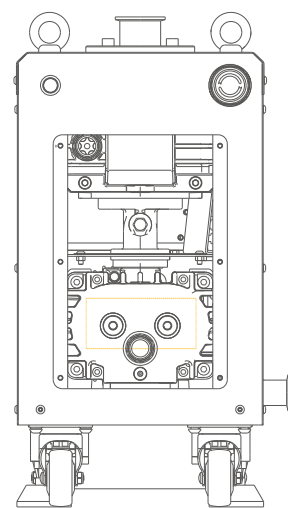

Fig.3
4. As shown in Figure 3, use a 5mm L-shaped wrench to turn the main rotor counterclockwise and feel the resistance during rotation.